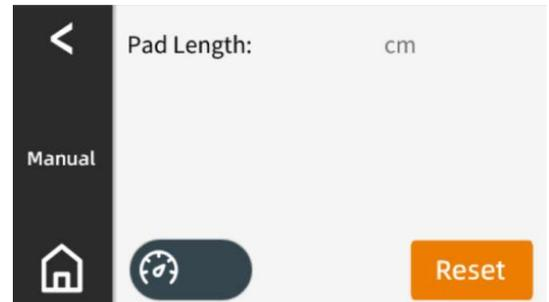

Figure1
- 1) Click to enter Manual mode (Figure 1);